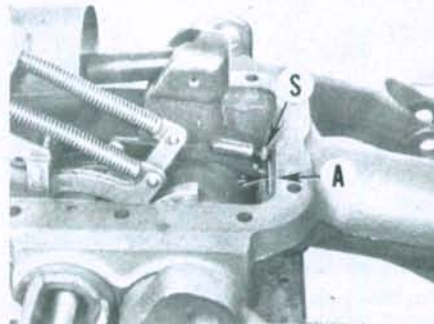

Fig. 265—Clearance (A) between draft rod cap screw (S) and lift cover casting should be 5.8 mm (0.230 inch). Refer to text.
trol rod stop screw (S—Fig. 265) to provide clearance (A) of 5.8 mm (0.230 inch) between head of screw and lift cover casting.